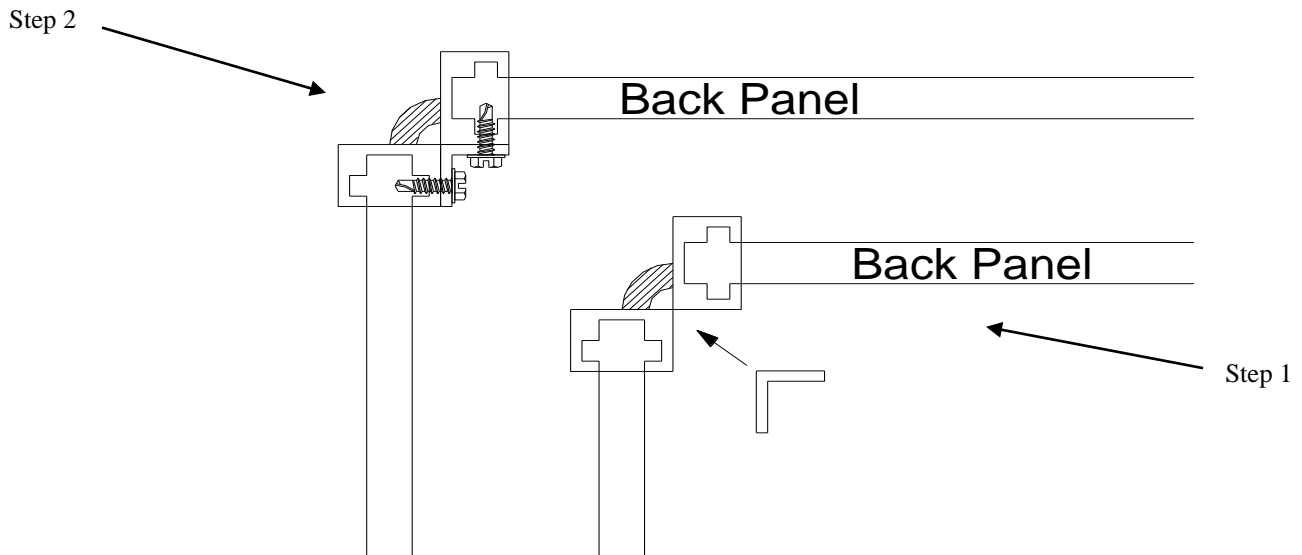

Figure 6
2. Connect the first division panel to the first back panel using the 3/4" x 3/4" aluminum angle and #10 x 5/8" TEK Hex washer head sheet metal screws (#2222). These screws are self drilling and do not require pilot holes. Using vise grips, clamp the 3/4" x 3/4" angle in place. See Figure 6. **These may be preinstalled on the division panels from the factory in certain cases.**